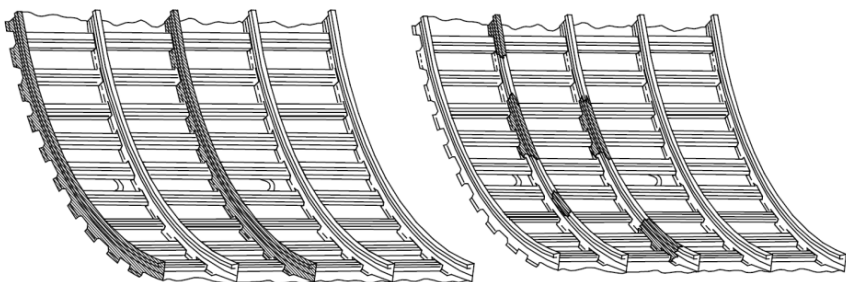

Fig.1. Examples of local (a) and widespread corrosion (b) [2]
**Local corrosion** is corrosion of a skin or web (wing, fuselage, empennage or strut) that does not exceed one frame, stringer, or stiffener bay. Local corrosion is typically limited to a single frame, chord, stringer or stiffener, or corrosion of more than one frame, chord, stringer or stiffener where no corrosion exists on two adjacent members on each side of the corroded member (fig.1 a).
**Widespread corrosion** is corrosion of two or more adjacent skin or web bays (a web bay is defined by frame, stringer or stiffener spacing). Or, widespread corrosion is corrosion of two or more adjacent frames, chords, stringers, or stiffeners. Or, widespread corrosion is corrosion of a frame, chord, stringer, or stiffener and an adjacent skin or web bay (fig.1 b).